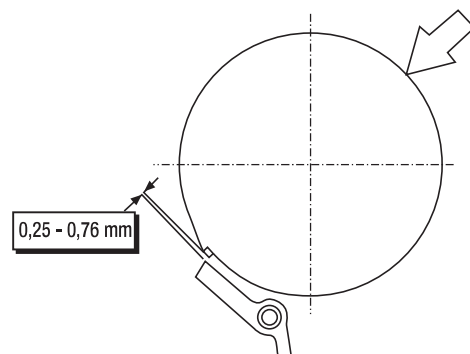

Figure 1
4. Align the cam face and actuator tip as shown in Figure 1.
5. Push the collar as indicated by the arrow in Figure 1 to take up the free collar play.